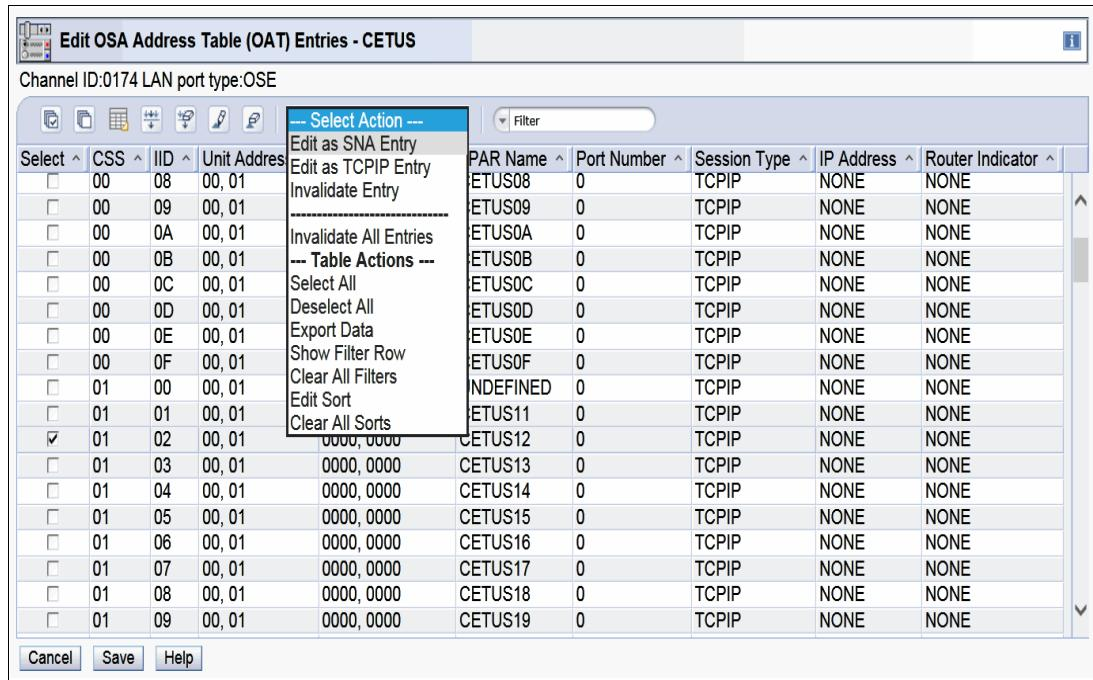

Figure 6-10 OSA/SF on the HMC: Select Action for Edit OSA Address Table (OAT) Entries window
6. To edit, select the device in the left column as shown in Figure 6-10. Click **Select Action** and choose either **Edit as TCP/IP entry** or **Edit as SNA entry** for the selected device.